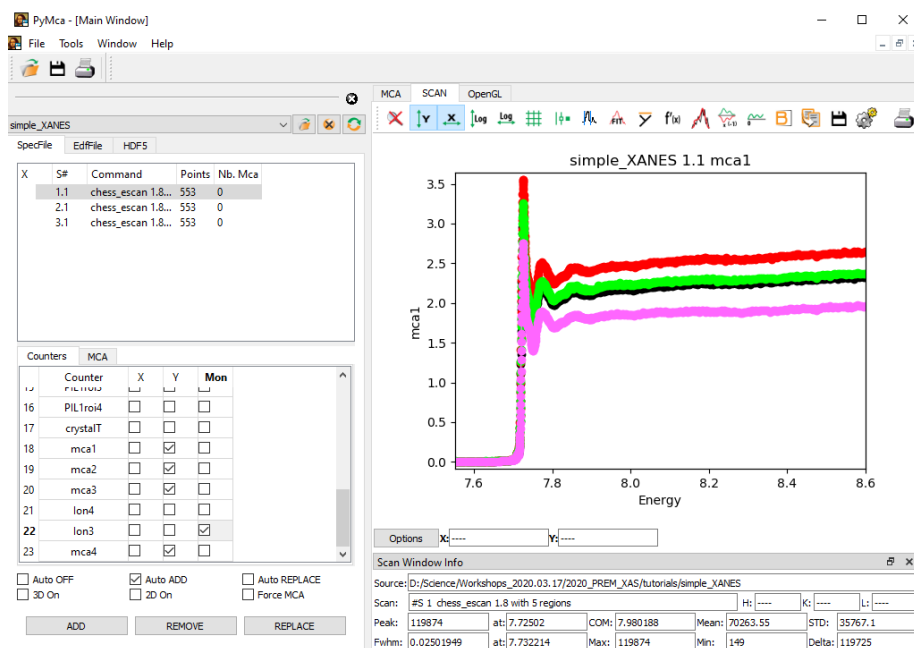

Figure 1-8: This is the XAS data after normalization to the incident beam intensity.
- 8) It's important to note that at this point the y-axis is plotted in terms of detector counts—which is the raw signal coming from the detector—which explains why the spectra look funny and have strange discontinuities. This happens both because the intensity of the incident beam changes with energy and also because different points in the spectrum were collected using different counting times, resulting in different amounts of total signal collected. To correct for these effects, it's critical to normalize the detector signal to the incident beam intensity. We do this by dividing the detector signal by the intensity of the incident beam; at the beamline, we had an ion chamber set up just before the sample to record the incident beam intensity (the “**Ion3**” channel in PyMCA), so to normalize the data check the “Ion3” box in the “mon” column. Your PyMCA window should look like Figure 1-8.